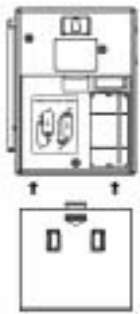

Figure 9. Battery Installation of Alarm Receiver
Step 2. Insert four (4) “AA” batteries (not included) following the polarity diagram (Figure 9).
- Step 1. Refer to Figure 9 to pull down the hook.